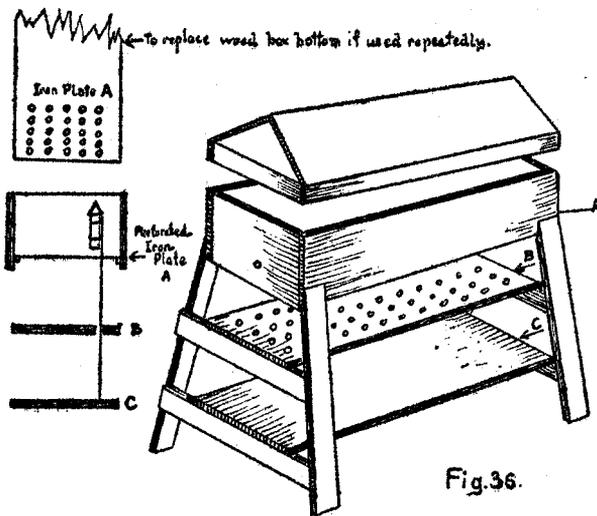

Fig. 36.
(Fig. 36) (A). Attach four legs to the box, about  $4\frac{1}{2}$  feet long. At  $1\frac{1}{2}$  feet from the bottom secure the other board with the holes in it, (B) so that a rocket passed through a hole in the box bottom may be steadied by passing through corresponding hole in lower one. Fit the third board (C) in the legs also, about 6 inches from the ground to make a resting place for the rocket sticks and so as to hold the bottoms of the rockets in box, about one inch above bottom board (A) of box. This is to permit the fire to reach all the rockets instantly when flight is lighted.